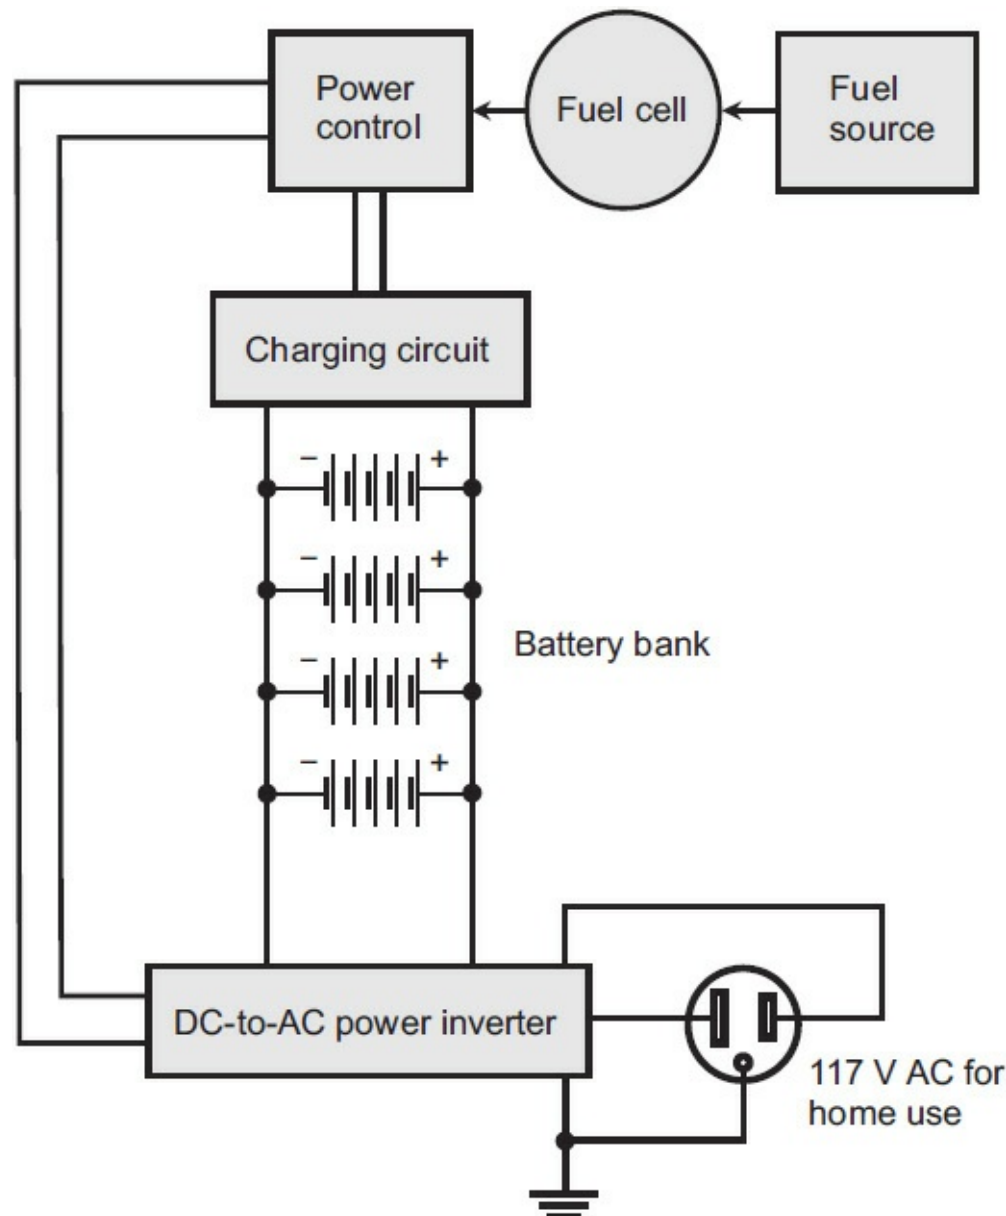

FIGURE 4-18 A small-scale fuel-cell-based electric power plant.
Figure 4-18 is a functional block diagram of a small-scale fuel-cell power plant suitable for a home or
- You might reasonably ask, “Can I, as a homeowner, expand a system, such as the one shown in Fig. 4-18, to take advantage of other sources of energy, such as sunshine or wind? If so, how might I do it? Could such a scheme allow my home to operate entirely off the electric utility grid?”